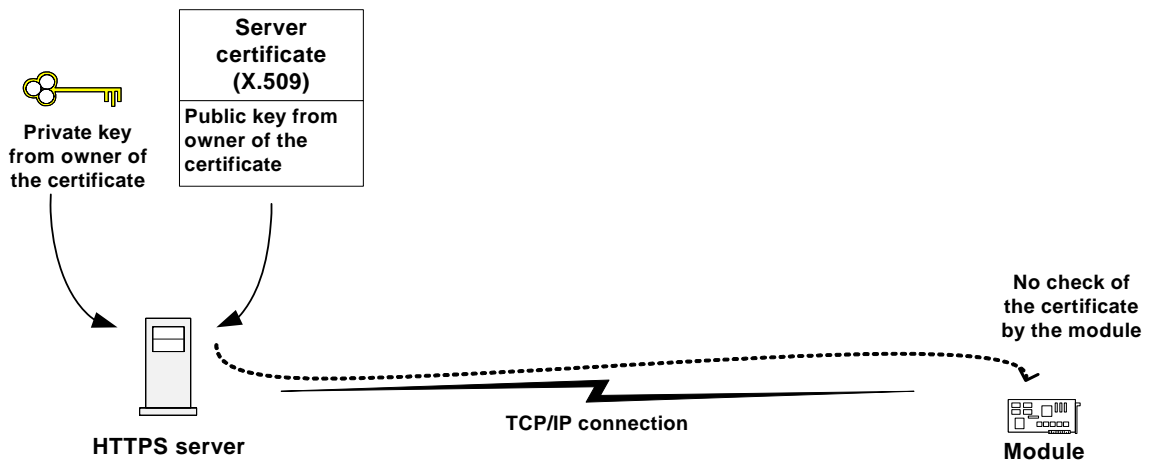

Figure 50: Mode 1 - Customer Root certificate does not exist
- No examination of the server certificate takes place when setting up the connection. The authenticity of the server certificate is not verified. See Figure 50.